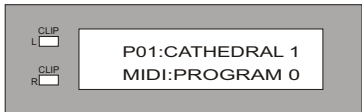
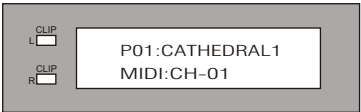

Fig 2.12: Control del programa MIDI
Fig 2.10: MIDI channel selection
(1) Press BYPASS & STORE buttons together (or press BYPASS first, then STORE) to enter MIDI program function. LCD screen will display "MIDI: CH-" (as Fig 2.10) and entering MIDI channel mode. Able to select "OFF, 1-16". Press BYPASS again (as Fig 2.12) to select four types of program from 0-3. Press PROGRAM button to enter MIDI communication. You may have MIDI control now. Press BYPASS button again to exist MIDI program.